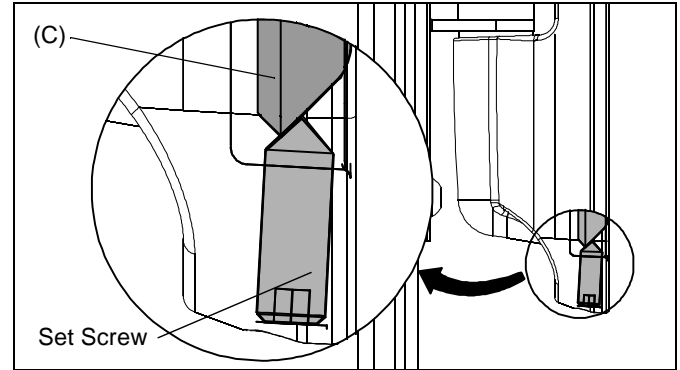

Figure 3
5. Tighten set screw using 5/32" hex key (H). Ensure set screw engages *back* side of bracket (C) to properly secure mount. (See Figure 3)